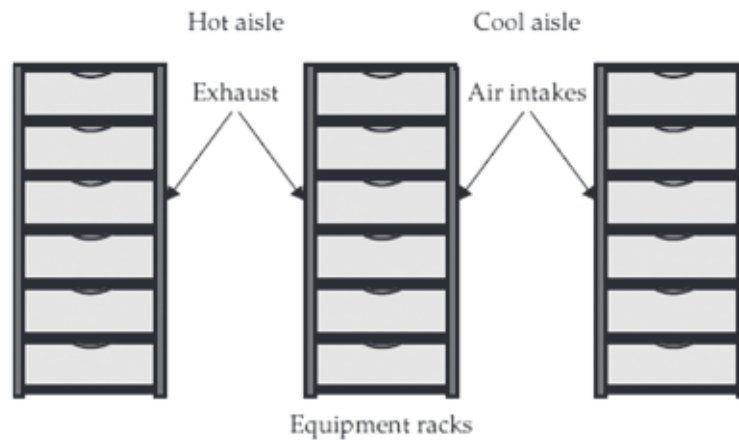

Fig. 4 Equipment can be configured in a hot-aisle/cold-aisle configuration
- Equipment is typically described to draw in air from the front and then blow the exhaust out the rear. As Figure 4 shows, this enables equipment to be arranged to create hot aisles and cool aisles.